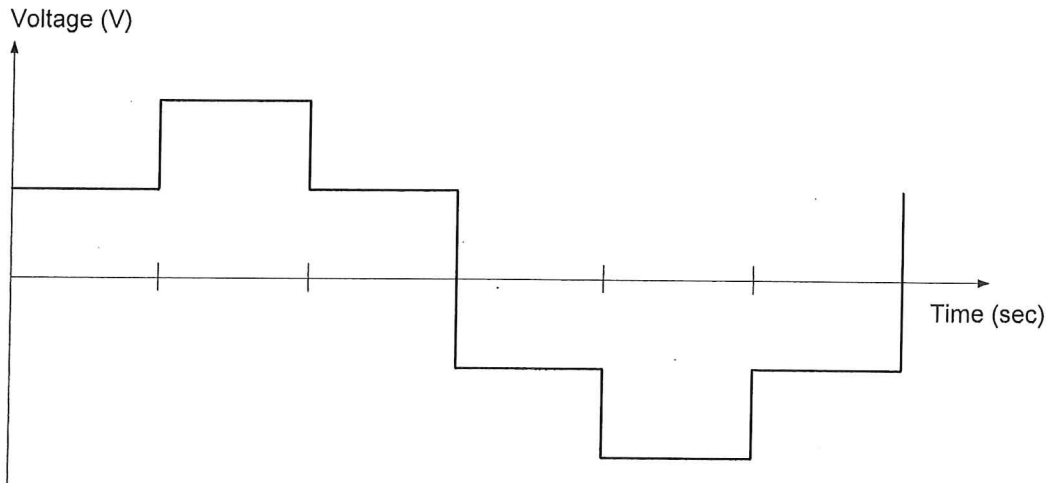

Figure 1. Six step voltage sourced converter line-to-neutral output waveform
- Find the harmonic content of a six-step line-to-neutral voltage output waveform from a six-step voltage sourced converter as shown in Figure 1. Use a DC line voltage of 300 Volts to determine the voltage levels and a switching frequency of 50 Hertz (for the entire cycle, not merely the individual steps) to determine the appropriate time intervals. In your answer, give the magnitude of the first five non-zero voltage harmonics.